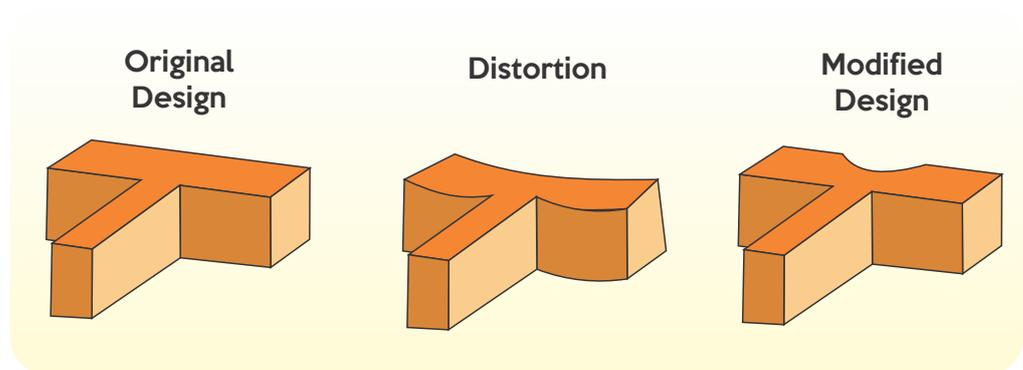

Figure 2.25 *Design improvements to remove or reduce distortion in plastic parts include:(a) proposed improvements to the design to reduce distortion.*
- 5** Injection moulding, for example, has smaller dimensional tolerances than thermoforming. Controlling material flow in the mould cavities is critical in the casting of metals and alloys. The implications of molecular orientation during polymer processing, particularly in extrusion, thermoforming, and blow moulding, should also be studied. Referring Figure 2.25, it was designed to remove or reduce distortion in plastic part.